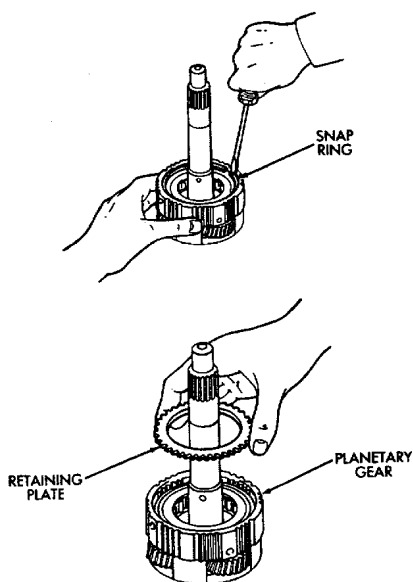

Fig. 13 Removing Snap Ring And Retaining Plate
(14) Remove snap ring and remove retaining plate (Fig. 13).